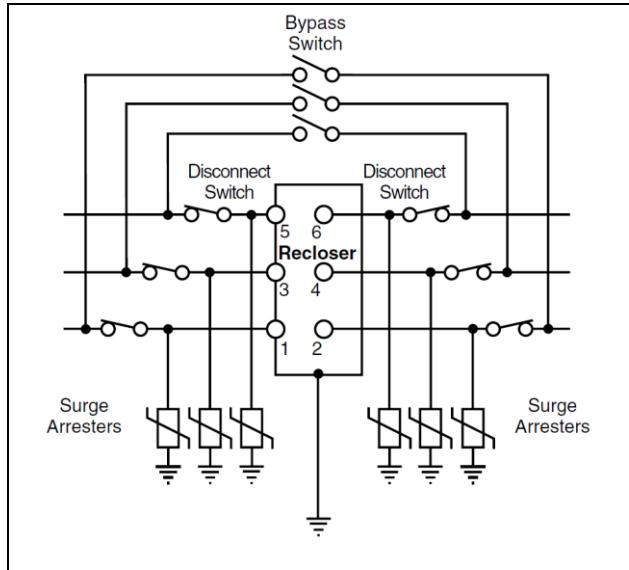

Figure 8.
6. **Make high-voltage line connections** (Figure 8).
- B. Provide surge arrester protection. Surge arrester protection should be provided on both sides; refer figure 8.